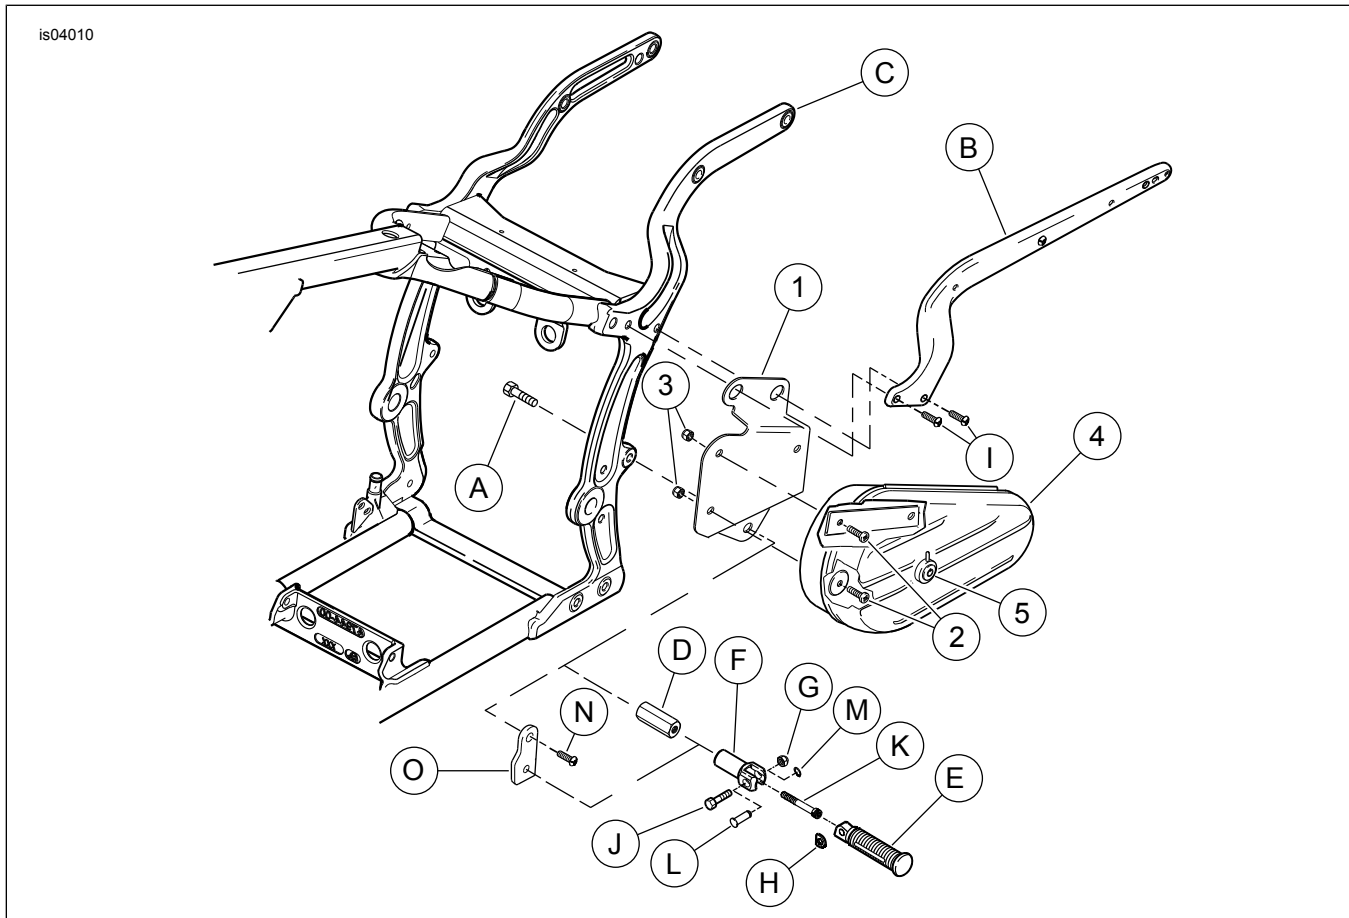

Figure 1. Service Parts: Left Side Toolbox Kit
See Figure 1 and Table 1.
- See Figure 1. Attach the toolbox (4) to the toolbox mounting bracket (1) using the three pan head screws (2) and nuts (3).
- Remove the two button head screws (I) which secure left rear fender support (B) to motorcycle frame (C). Save screws for assembly.
- For FLSTN models:** Remove button head screw (N) and left footrest bracket (O) with attached footrest support (F) and footrest (E).
- For all other models:** Remove the locknut (G), hex head bolt (J), spring washer (H) and footpeg (E). Remove the socket head cap screw (K) that secures the footrest support (F) to the frame (C).
- Slide the top of mounting bracket (1) between rear fender support (B) and frame (C). Align top holes in bracket with fender support holes. Align lower bracket hole with footrest mounting hole in frame. Install the two screws (I), removed in Step 2, in fender support. Do not tighten screws at this time.